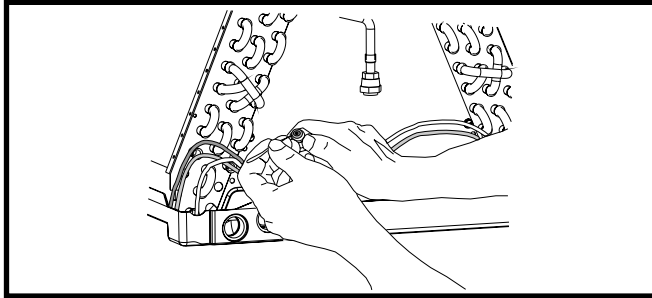

Figure 3. Removal of Orifice
2. Insert a light-gauge wire hook between the distributor body and the restrictor orifice while being careful not to scratch either part. Carefully remove the restrictor orifice from the distributor body. See Figure 3 (page 4).
3. Insert a light-gauge wire hook between the distributor body and the restrictor orifice while being careful not to scratch either part. Carefully remove the restrictor orifice from the distributor body. See Figure 3.